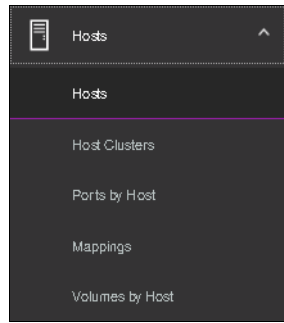

Figure 5-113 Hosts
1. Select **Hosts** option under the **Hosts** section on the main panel as shown in Figure 5-113 on page 264.